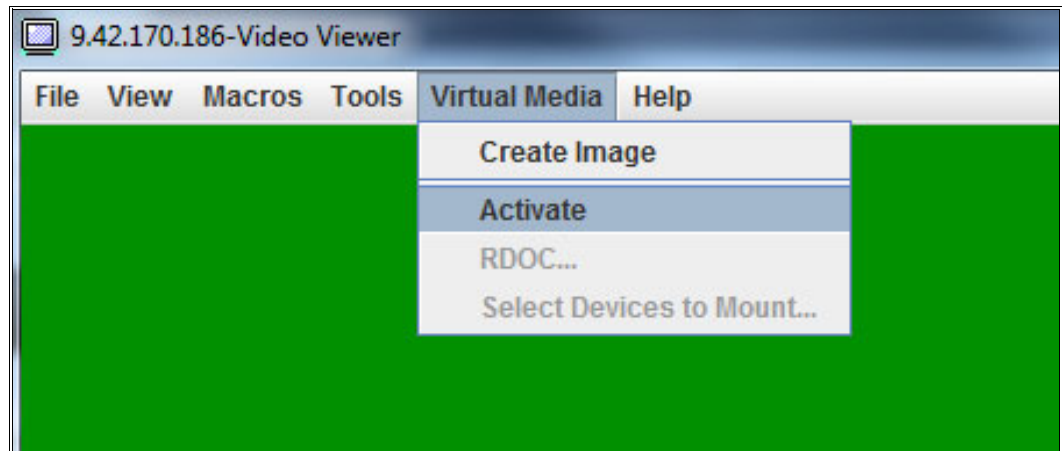

Figure 5-6 Launching virtual media
5. To mount an existing image to the remote server as virtual media, enable the Virtual Media function by clicking **Activate** on the Tools drop-down menu that is shown in Figure 5-6.